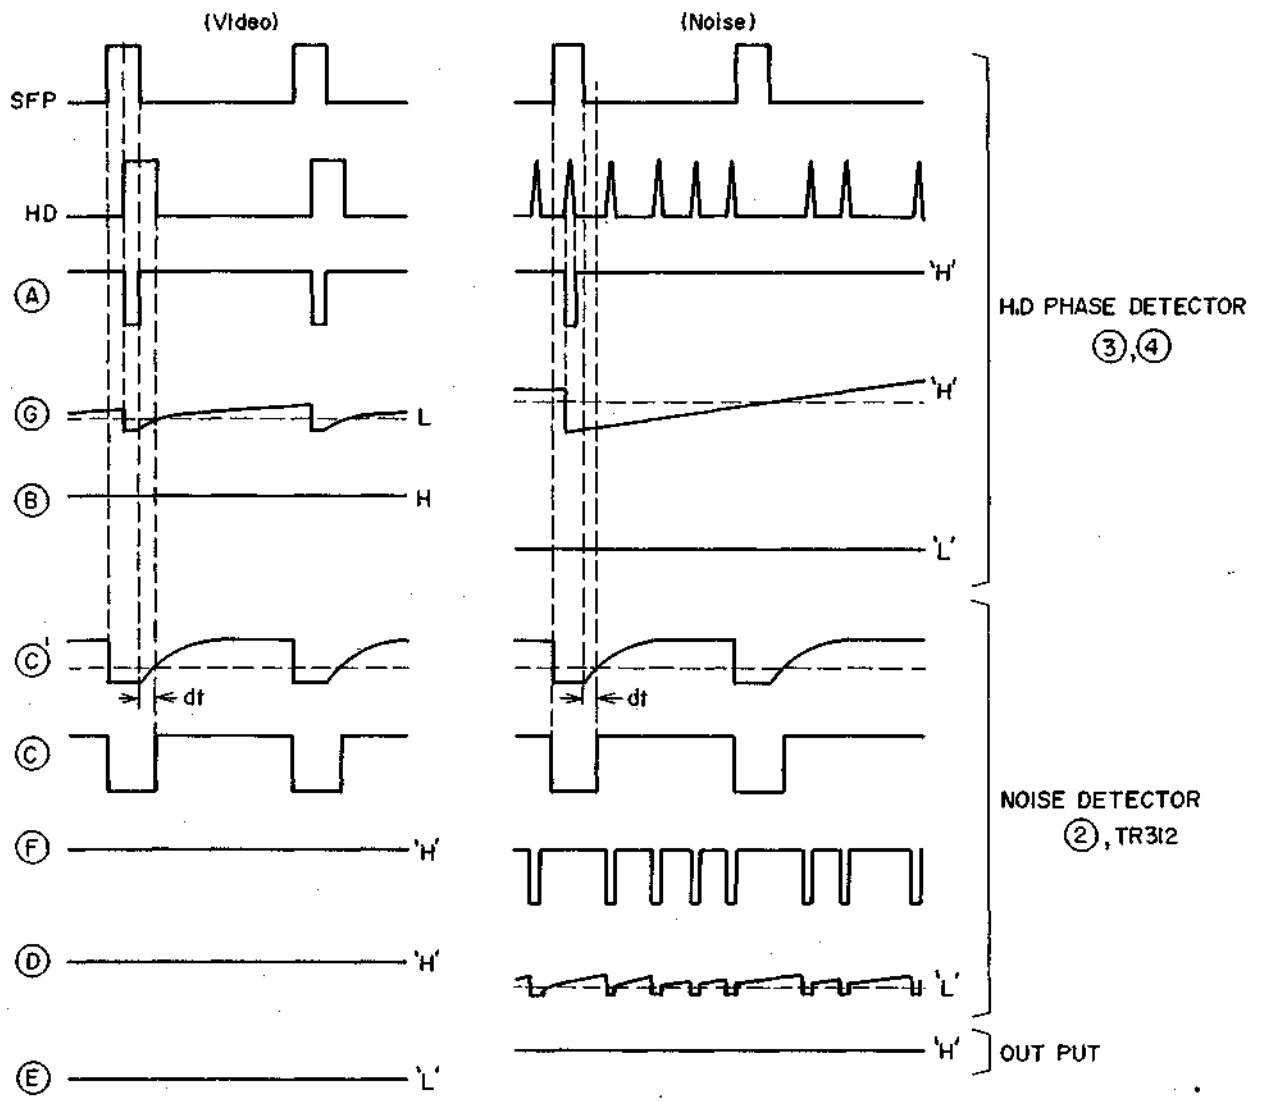

Fig. 30
When the video signal is correctly inputted into the video amplifier, 160 fH is locked by the input sync and has the same phase, and at that time, the output will be 'L' at the point where the phases are in conformity as shown in (A). Since the time constant of the discharging direction of C324 of R366//D308 and C324 circuits is almost '0', (G) is made 'L' by the pulse. In the case of noise, it is very rare that the phases of SFP and noise are in conformity and that (A) becomes 'L', and the level is 'H'. Gate 2 and TR312 are the circuits to check that there is no noise in the part other than the sync. SFP is inverted by TR312, and the leading edge of waveform (C) is delayed by dt by C325. Therefore, it becomes 'H' when it is in the oblique line part of the waveform (C). If there is video input, the phases of (C) and HD are in agreement and (F) keeps 'H', but in the case of noise, it becomes 'L' when noise is inputted. In C323, R365 (charging circuit) and C323, R369 (discharging circuit), $R365 \gg R364$, so the level of (D) is 'L' and output E is H. On the contrary, when there is video input, both (B) and (D) become 'H' and the output is 'L'. (See Fig. 30)